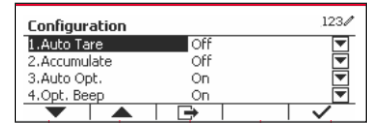

Figure 51
1. Press the softkey corresponding to the **⌨** icon to enter Configuration. The Configuration screen is now displayed. (See Figure 51)